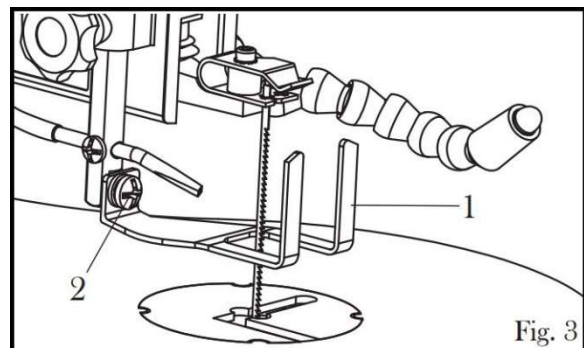

Figure 3
1. Remove the blade guard foot (1). This can be done using a Phillips head screwdriver. Loosen the Phillips head screw (2) as indicated in Figure 3 below.
- Reattach the blade guard foot (1) so that the foot rests flat against the table. Now tighten the Phillips head screw (2). (figure 3)